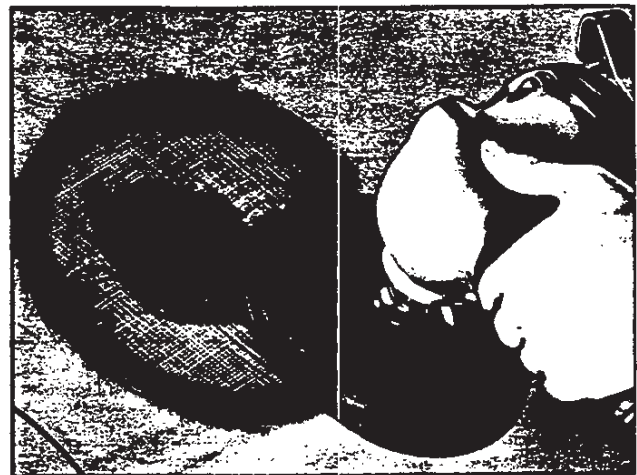

Fig. 51—Finishing Plastic Solder Repair
4. Finish the repair by grinding, sanding and painting in the usual manner, Figure 51.